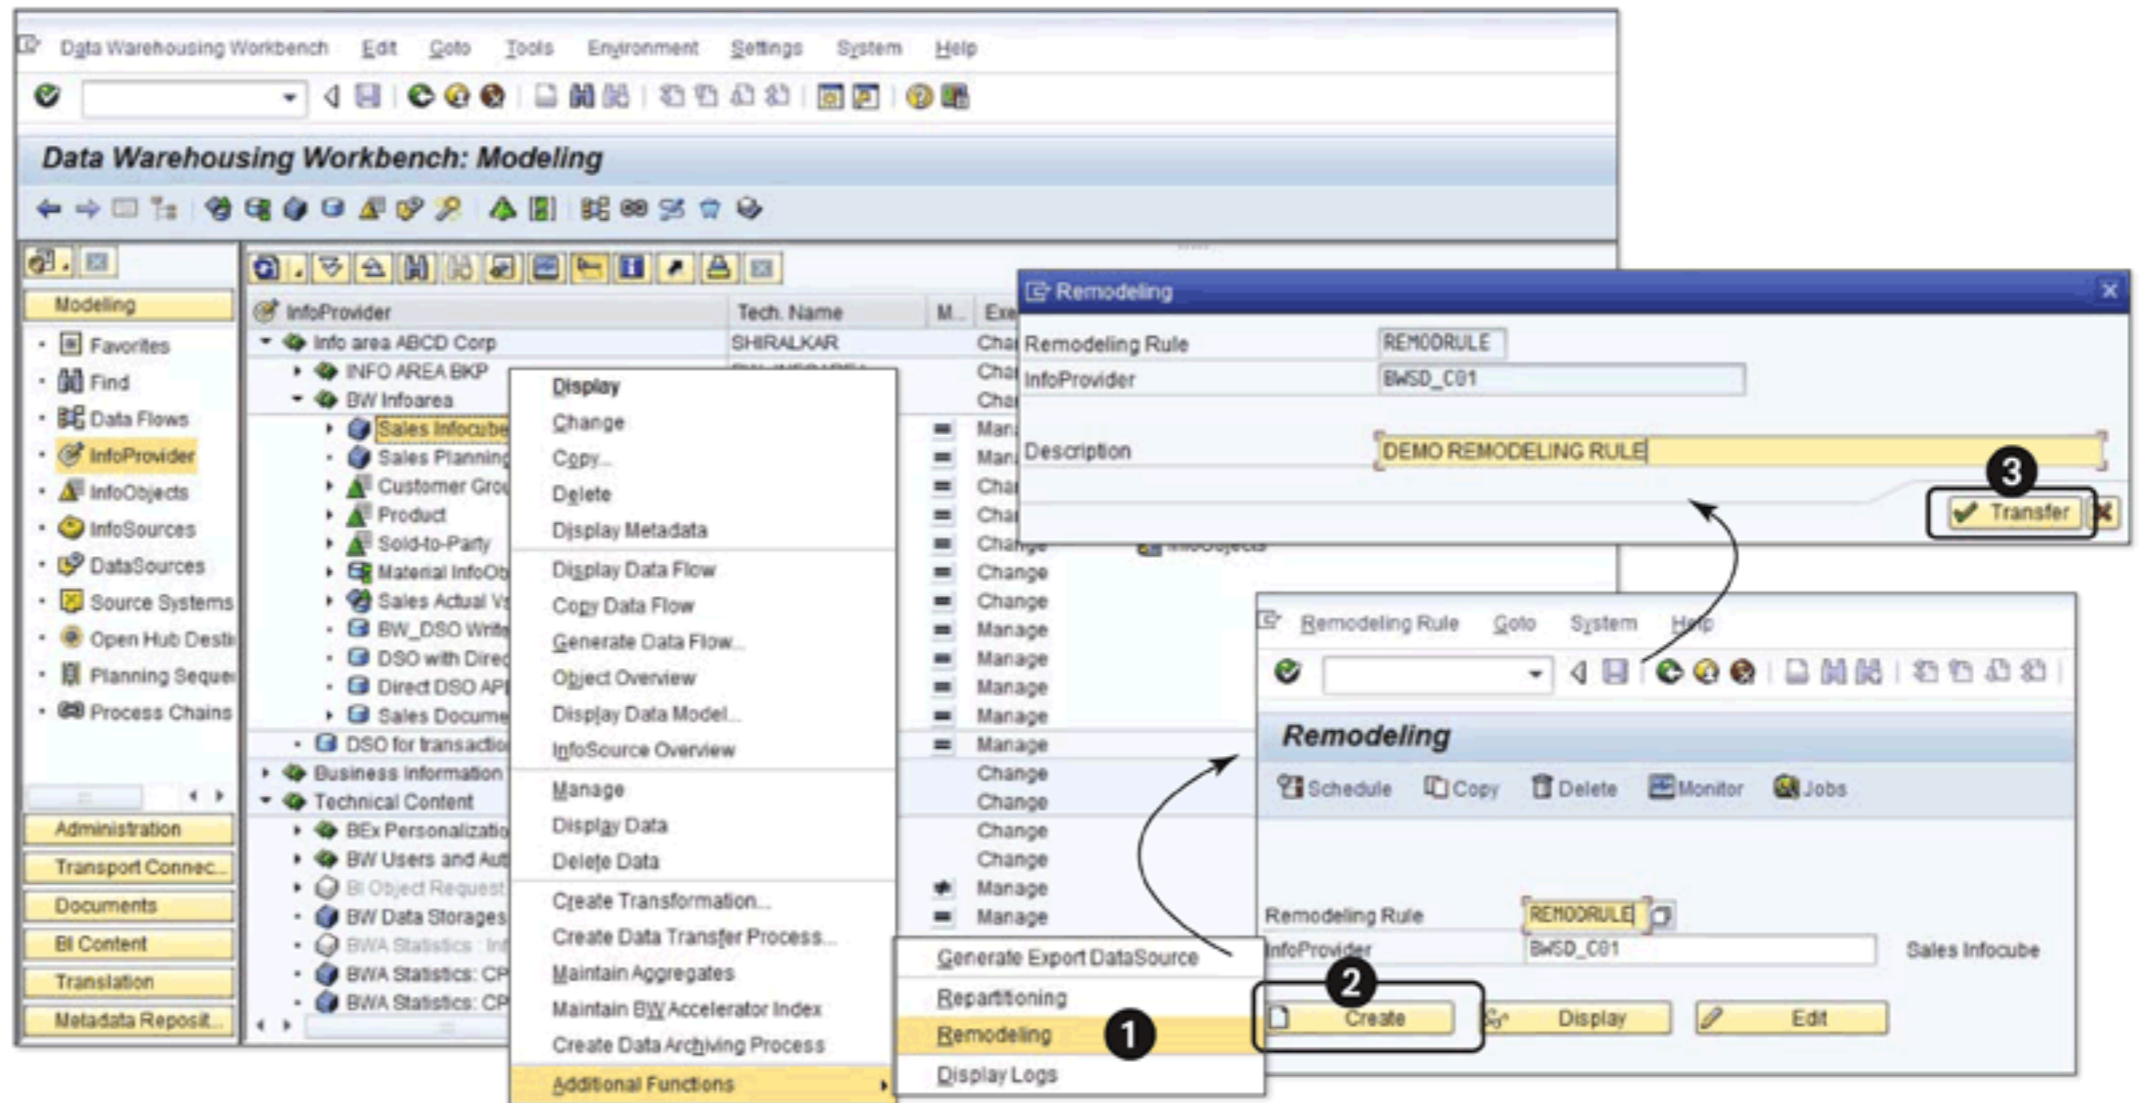

Figure 15.23 Create Remodeling Rules
To create or maintain the remodeling rules for an InfoCube, select **ADDITIONAL FUNCTIONS • REMODELING** from the context menu of the InfoCube in Transaction RSA1 (❶ of Figure 15.23).
Once it's completely defined, save the remodeling rule, and return to the previous screen. You can execute this rule by using the `SCHEDULE` button shown earlier in Figure 15.23.